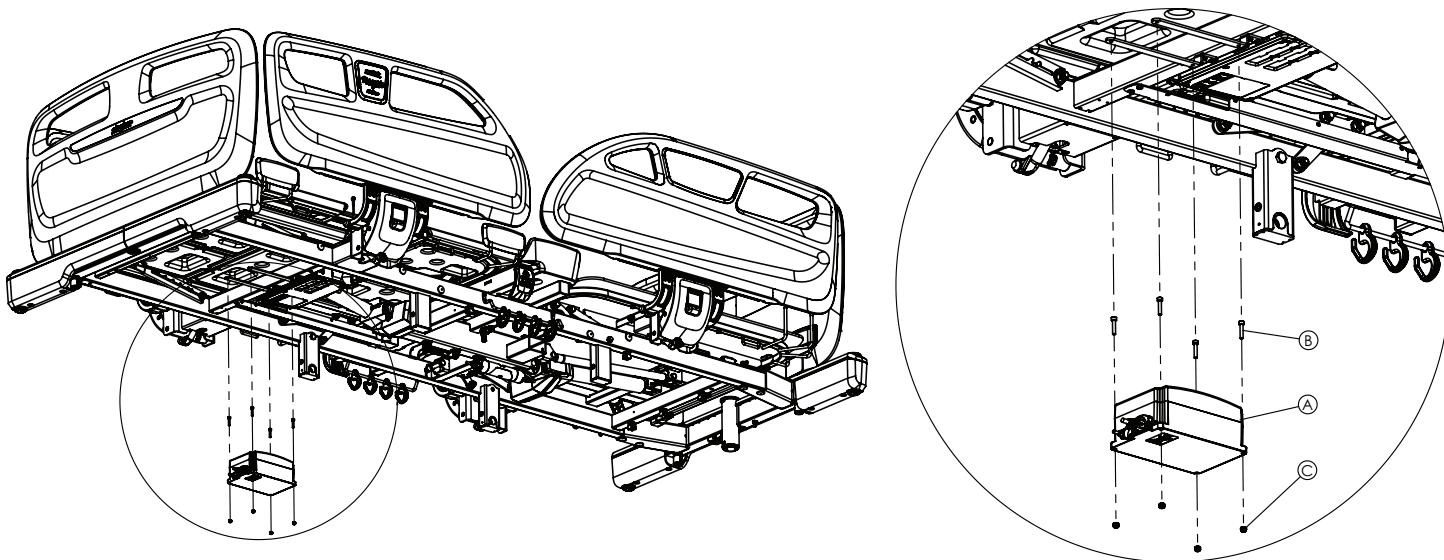

Figure 29 – Battery
6. Using an M4 Allen wrench and a 7 mm combination wrench, remove the four bolts (B) and nuts (C) that secure the battery to the battery holder metals (Figure 29). Discard the bolts and nuts.
7. Remove the battery (A). Dispose of the battery according to local laws and procedures.